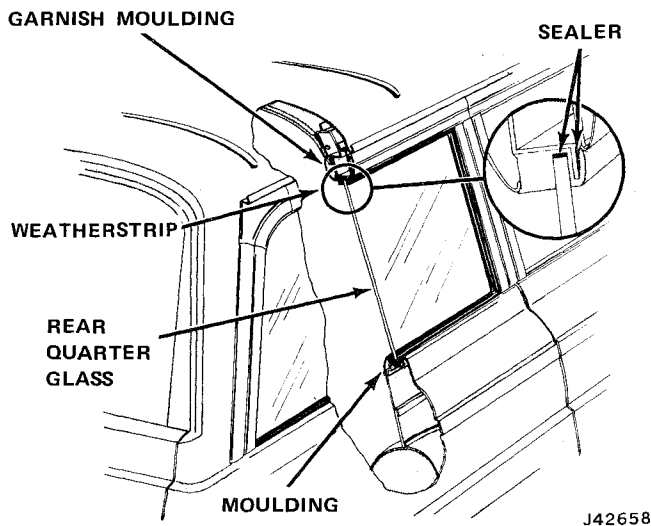

Fig. 3K-2 Rear Quarter Window—Cherokee-Wagoneer
- (1) Before installing glass in weatherstrip, apply 3/16-inch bead of 3M Windshield Sealer or equivalent in glass cavity completely around weatherstrip using a pressure type applicator (fig. 3K-2).
(2) With glass installed in weatherstrip and before alling glass and weatherstrip into opening, insert a .inch cord completely around weatherstrip in flange cavity.